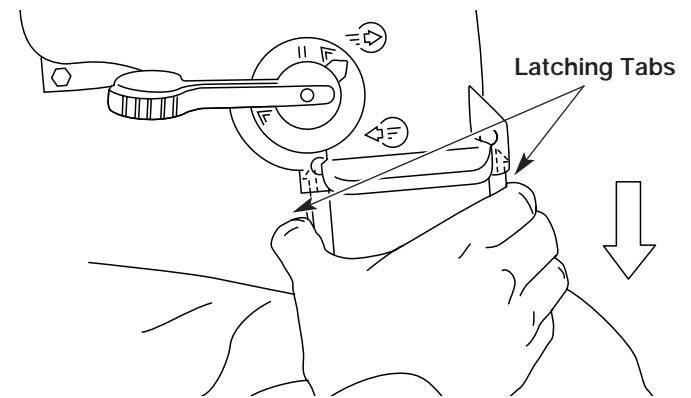

Fig. 5
1. Press the latching tabs on both sides of the vacuum bag tube and pull the vacuum bag from the unit (Fig. 5).